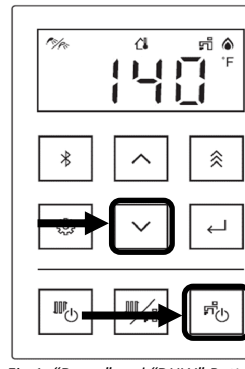

Fig 1. "Down" and "DHW" Buttons
- 1. Press and hold the (Down) button for two seconds (Fig 1).
2. While holding the (Down) button, press and hold the "Domestic Hot Water" (DHW) button (hold both buttons at the same time) (Fig 1).